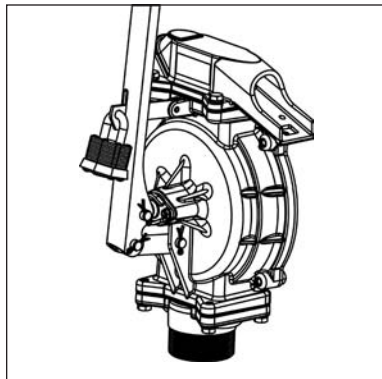

Figure 2
- Insert a padlock through the clasp hole and lock. (Figure 2)